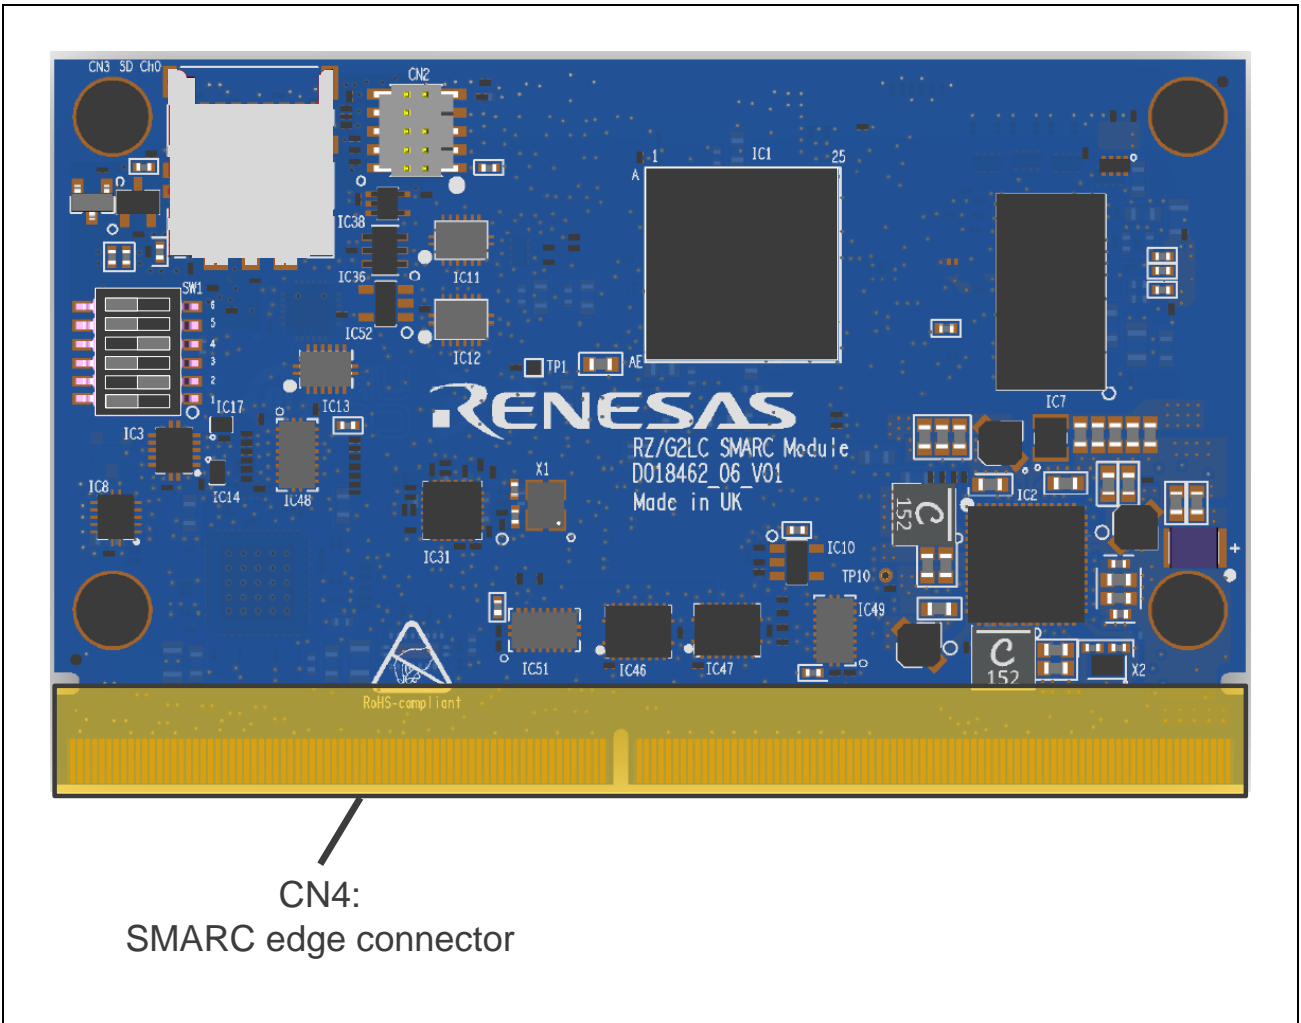

Figure 3.4 Layout of Carrier Board Connecting Pins
**Figure 3.4** illustrates the layout of Carrier board connecting connector pins. For the assignment of Carrier board connecting connector pins, please refer to the section4 “MODULE PIN-OUT MAP” of the document “SMARC module 2.1 Specification (sget.org)”.